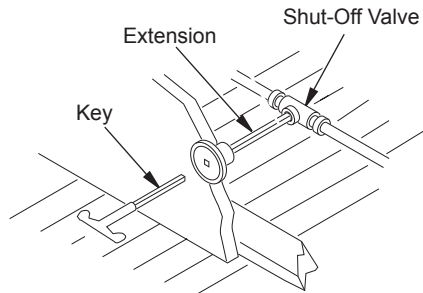

Figure 13 - Typical Exterior Wall Gas Shut-Off Installation
A manual shutoff valve, CSA certified and complying with the *National Fuel Gas code*, ANS Z223.1/NFPA 54, must be included within (6') six feet of the vent-free firebox gas supply system. It may be convenient to install the gas shutoff outside the vent-free firebox enclosure where it can be accessed with a key through a wall as shown in Figure 13. Depending on the type of installation, some local codes may require you to install two (2) manual shutoff valves independently accessible from both rooms. Check your local codes for applicable installation requirements.